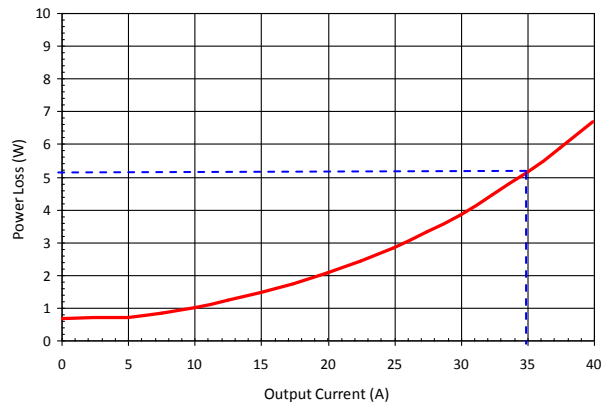

Figure 9: Typical IR3558 Power Loss
The measured single-phase IR3558 power loss under the same conditions is provided in Figure 9.
If any of the application condition, i.e. input voltage, output voltage, switching frequency, PVCC (HVCC/LVCC) MOSFET driver voltage or inductance, is different from those of Figure 9, a set of normalized power loss curves should be used. Obtain the normalizing factors from Figures 11-15 for the new application conditions; multiply these factors by the power loss obtained from Figure 9 for the required load current.
- 1) Determine the power loss at 35A under the default test conditions of $V_{IN}=12V$, $V_{OUT}=1.2V$, $f_{SW} = 400kHz$, $L=150nH$, $PVCC$ (HVCC/LVCC) = 7V, $T_{AMBIENT} = 25^{\circ}C$, no heat sink, and no air flow. It is 5.2W from Figure 9.